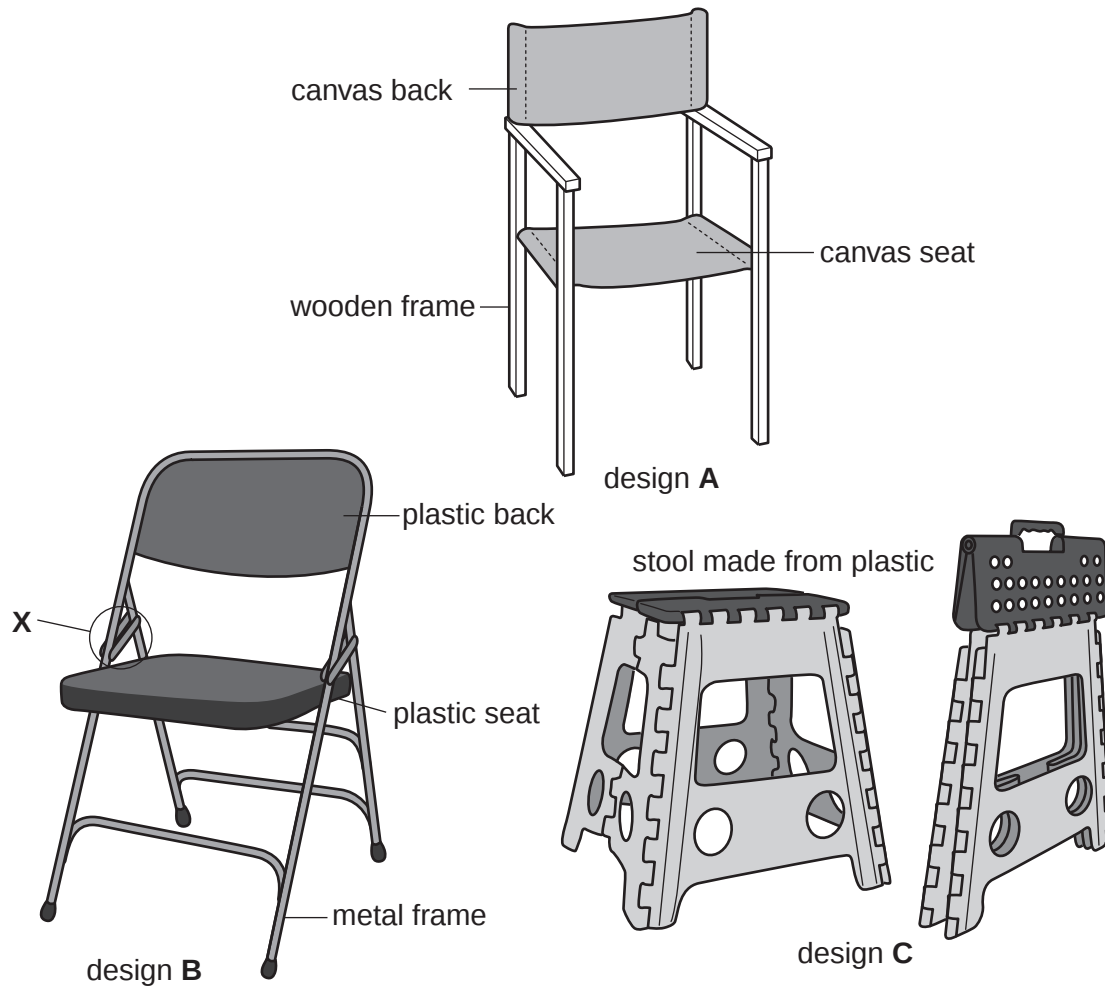

Fig. 6
6 Fig. 6 shows a range of designs for folding chairs and stools.
- Discuss why design A might be considered more 'environmentally friendly' than the other designs shown in Fig. 6.